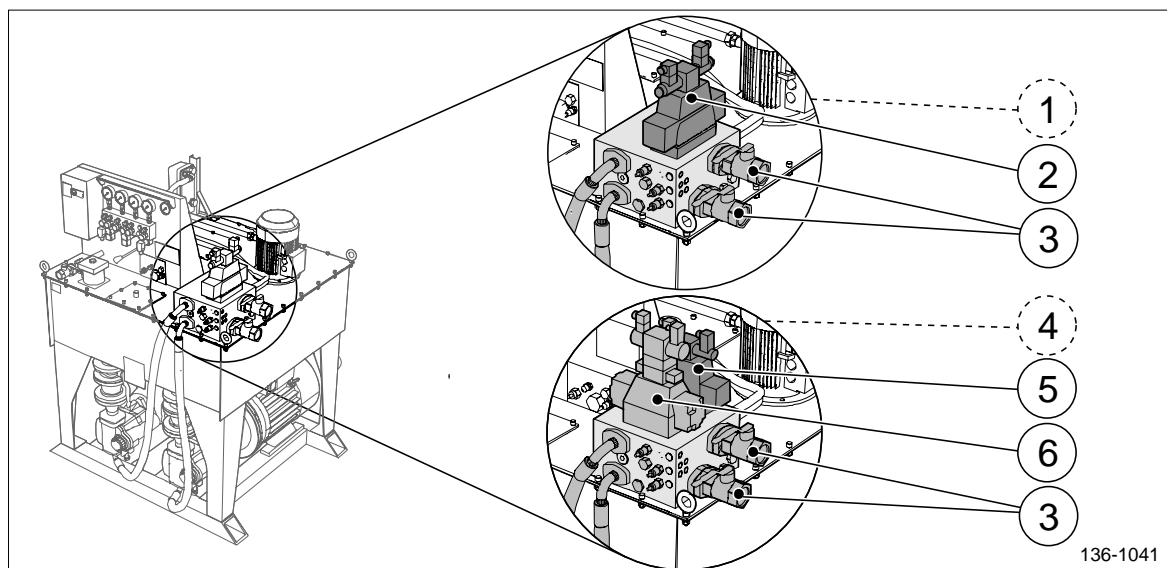

Figure 5 The valve manifold on the hydraulic power pack.
5. Close the shut-off valves V39 and V40 (pos 3, figure 5).
6. Manoeuvre directional proportional control valve V3 (see figure 5) by hand in both ahead and astern direction to depressurize the hydraulic system.